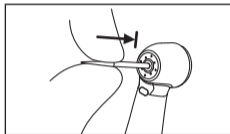

Fig. 5
- 1 Insert the bur into the chuck (Fig. 5).